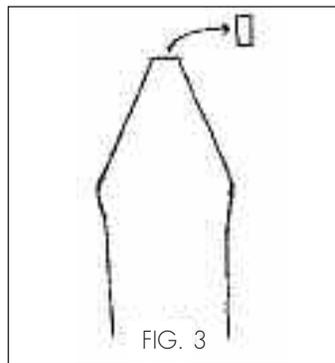
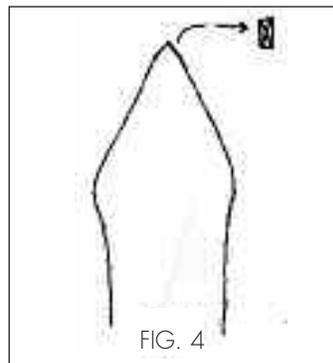

FIG. 3
FIG. 4
4. What type of tip should your forepunch have? The forepunch should have a sharp, diamond shape tip on it for two reasons: a. Suppose your punch tip is flat (Figure 3). The steel comes out to be punched at a yellow heat. The surface is slippery from this heat. When you place the punch on the hot steel and raise your hammer the punch will often slip. After the hammer makes contact and you see where the hole is punched you can't understand why your nail holes are out of place! A flat end on your forepunch will cause this every time. By putting a sharp point on the end (Figure 4) you can stick it into the stock with no movement.
If a round is placed just off the eye and forced into the material (figure 3)
the bottom edge lifts and becomes the point (figure 4). The only thing left to do is cut off the excess as the dotted line shows in figure 4.